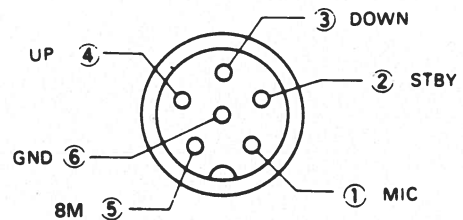

Fig 17. MIC terminals (view from front panel side)
- Connect MIC connector as shown in Fig 17